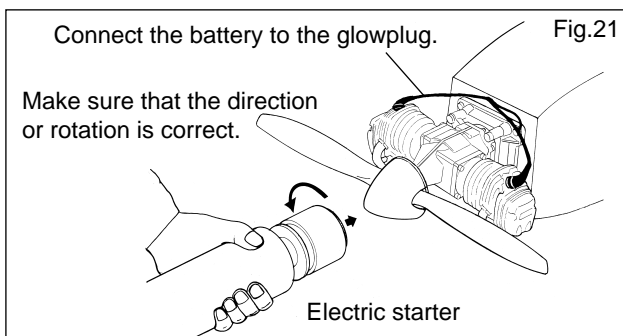

Fig.21
6. Starting with an electric starter (Fig.21)